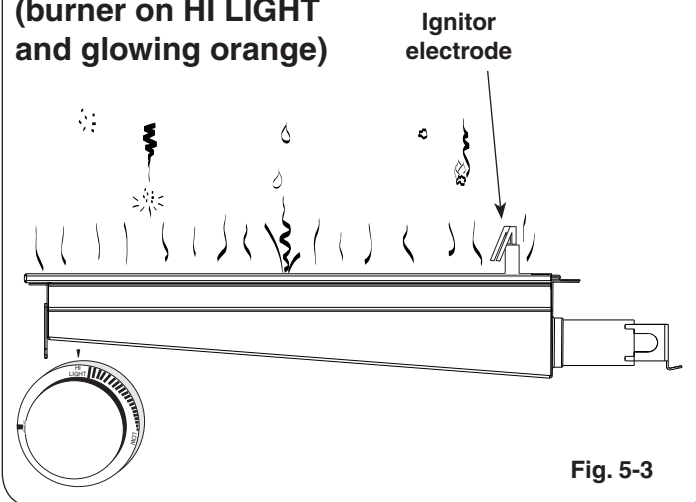

Fig. 5-3
- **DO NOT place food on the cooking grid until the IR burner glows orange (Fig. 5-3).** Drippings are heated and evaporate instead of sticking to and impairing burner function.